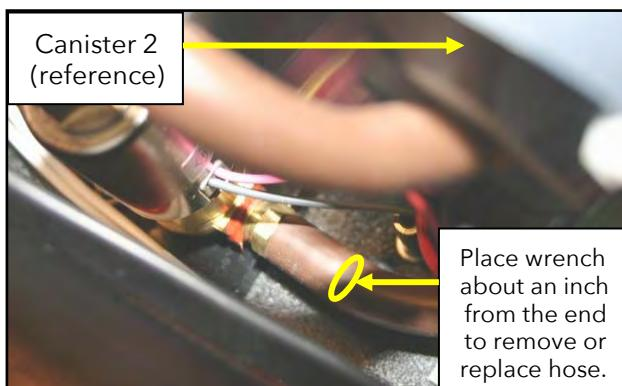

Figure 3. DISCONNECTING THE AIR HOSE.
7. Using a tubing wrench or vacuum tube pliers, hold the air hose about an inch in from the end of the hose (in front of canister 2) then pull gently to disconnect the hose from the fitting. Refer to Figure 3. With the mounting base and the air hose disconnected, remove the existing compressor from the machine.